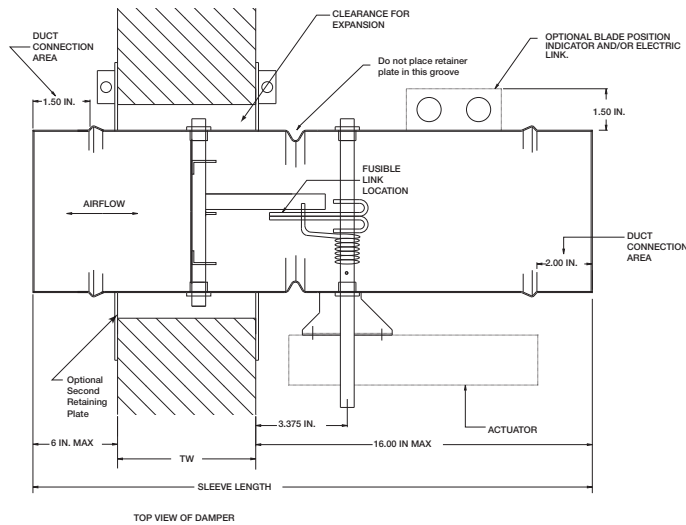

Figure 5: FSDR/SEFSDR/SSFSDR
Insert the damper assembly into the prepared opening, to appropriate depth (see **Figure 5 & 6**).
- Position the retaining plate between the blade axle and the actuator shaft as shown in **Figure 5 & 6**. Do not place the retaining plate in the groove. **IMPORTANT:** The clamping mechanism should face away from the wall/floor.